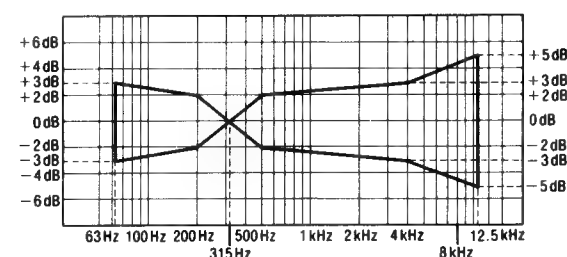

Fig. 6
2. Assume that the frequency response is within the range shown in Fig. 6 for both L-CH and R-CH.